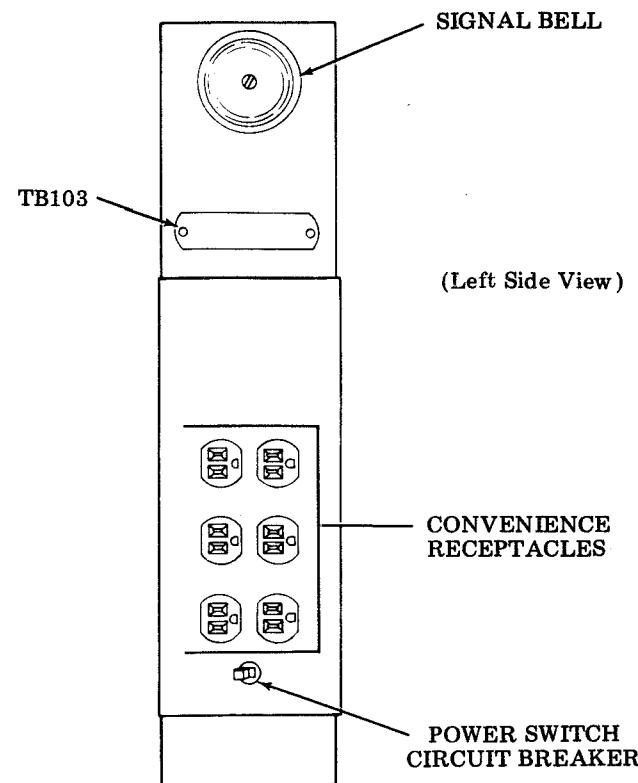
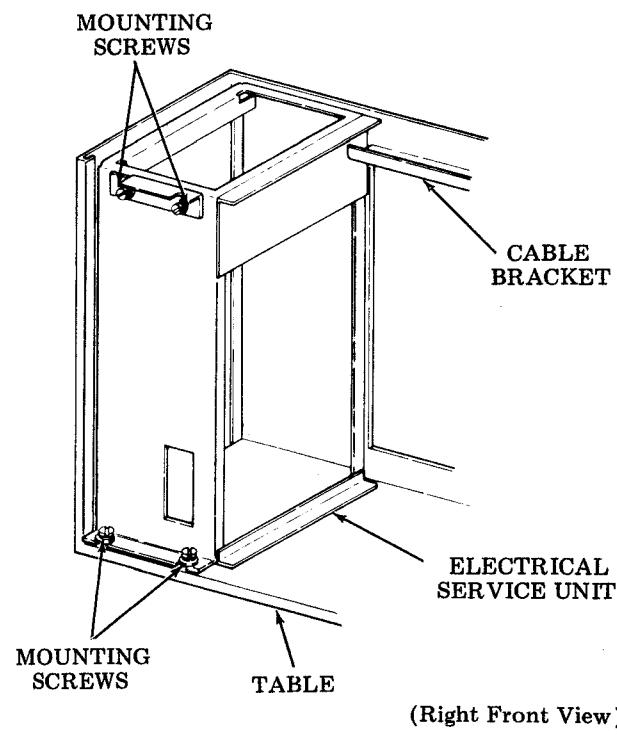

Figure 16 - 37 Utility Strip
Figure 17 - ESU Mounted in Table
4.21 The utility strip (Figure 16), if used, and the electrical service unit (ESU) are exposed when the front panel on the table is removed (2.04). To gain easier access to the circuit cards and answer-back unit (optional), the electrical service unit may be removed from the table. To remove the ESU, refer to Figure 17 and proceed as follows.
- (1) Cut the plastic strapping with a pair of side cutters.
- (2) Pull out the strapping, being careful not to jar the unit.
- (3) Remove the packing material.
4.24 Code the answer-back drum as outlined in the following paragraphs. Use the ASCII (American National Standard Code for Information Interchange) shown in Figure 19. Replace the electrical service unit, install the three mounting screws on the front plate, and route the cables over the bracket on the back panel (Figure 17). Route the power supply cable from the utility strip (Figure 16) through the oblong opening in the base of the table. DO NOT CONNECT THE POWER CABLE AT THIS TIME. If equipped with a utility strip, check to insure that the power cable from the electrical service unit is connected to an outlet on the utility strip.